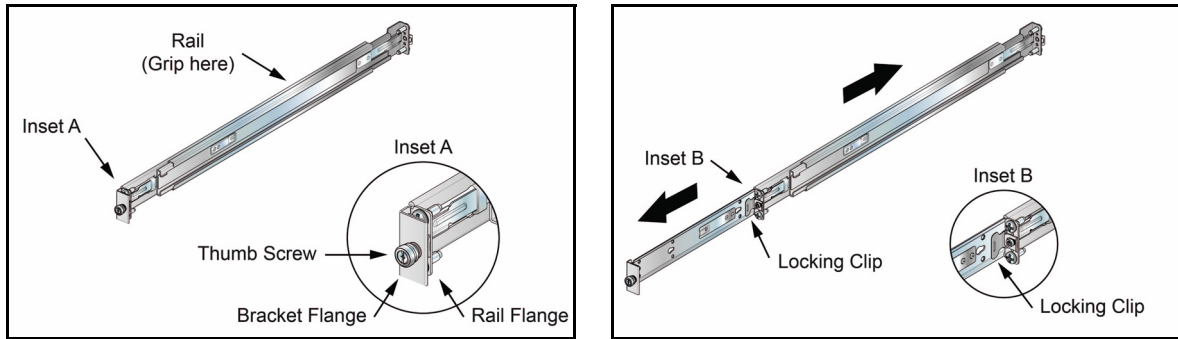

Figure 3-8: Extracting the Bracket-Rail Assembly
Step 1 Grip the rail with your right hand, as shown in Figure 3-8-left. Pull the bracket flange away from the rail flange with your left hand until the bracket clip catches on the rail (Figure 3-8-Right).
- Step 2** While pressing the locking clip on the bracket (Figure 3-8-Right), resume pulling the bracket from the rail until the separation is complete.